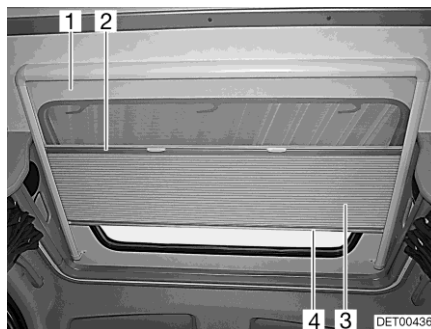

Fig. 46 Roof window
The Roman shade (Fig. 46,3) is permanently connected to the insect screen (Fig. 46,1).
- Hold the Roman shade in the centre of the bottom rod (Fig. 46,4) and carefully draw it downwards.
- Slowly return the Roman shade to its initial position with the bottom rod (Fig. 46,4).
- Hold the insect screen at the centre of the bottom rod (Fig. 46,2) and carefully pull it downward as far as it goes.
- Slowly return the insect screen on the bottom rod of the Roman shade (Fig. 46,4).